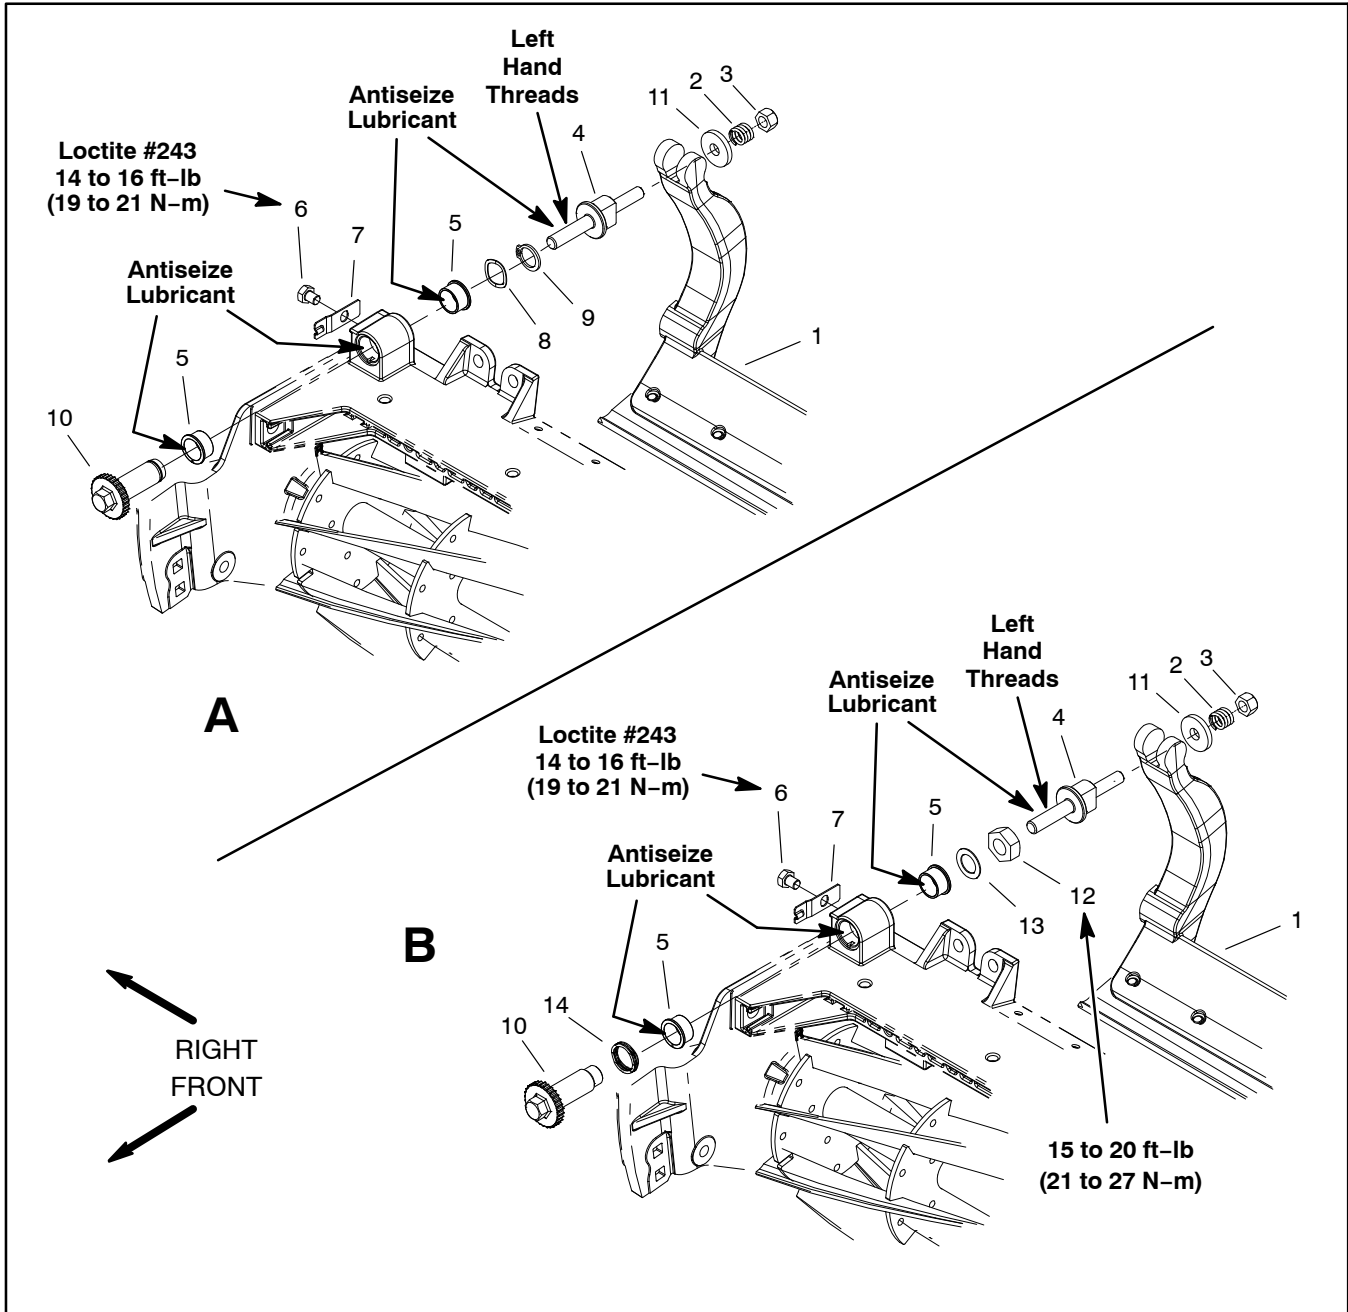

Figure 32
NOTE: The bedbar adjuster system for early production DPA cutting units (Fig. 32 A) used a retaining ring on the end of the bedbar adjuster shaft. Current production DPA cutting units (Fig. 32 B) include a lock nut on the end of the bedbar adjuster shaft. Upgrading to the
Removal (Fig. 32)
1. Remove lock nut (item 3), compression spring and washer from bedbar adjuster screw (item 4).
3. Remove bedbar adjuster screw (left hand threads) from the bedbar adjuster shaft (item 10).
- A. On early production cutting units (Fig. 32 A), remove retaining ring and wave washer from adjuster shaft. Slide adjuster shaft from cutting unit frame.
- B. On current production cutting units (Fig. 32 B), remove lock nut and flat washer from adjuster shaft. Slide adjuster shaft and wave washer from cutting unit frame.
5. Inspect flange bushings (item 5) in cutting unit frame and remove if necessary.
6. If detent (item 7) is damaged, remove it from cutting unit side plate.
Installation (Fig. 32)
1. If detent (item 7) was removed, apply Loctite #243 (or equivalent) to threads of cap screw and secure detent to cutting unit side plate with cap screw. Tighten cap screw from **14 to 16 ft-lb (19 to 21 N-m)**.
2. If flange bushings (item 5) were removed, apply anti-seize lubricant to bore of cutting unit frame. Align key on bushing to slot in frame and install bushings into frame. Apply anti-seize lubricant to bore of each flange bushing.
- A. On early production cutting units (Fig. 32 A), slide bedbar adjuster shaft into flange bushings in cutting unit frame. Secure adjuster shaft with wave washer and retaining ring.
- B. On current production cutting units (Fig. 32 B), slide wave washer onto adjuster shaft and then slide adjuster shaft into flange bushings in cutting unit frame. Secure adjuster shaft with flat washer and lock nut. Tighten lock nut to shoulder of adjuster shaft and then torque lock nut from **15 to 20 ft-lb (21 to 27 N-m)**.